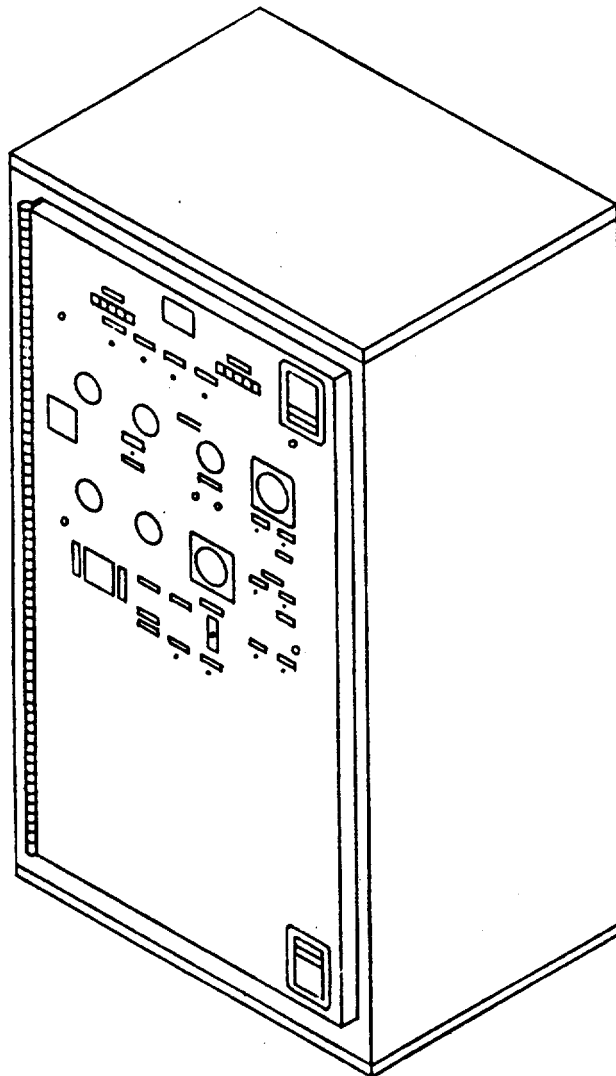
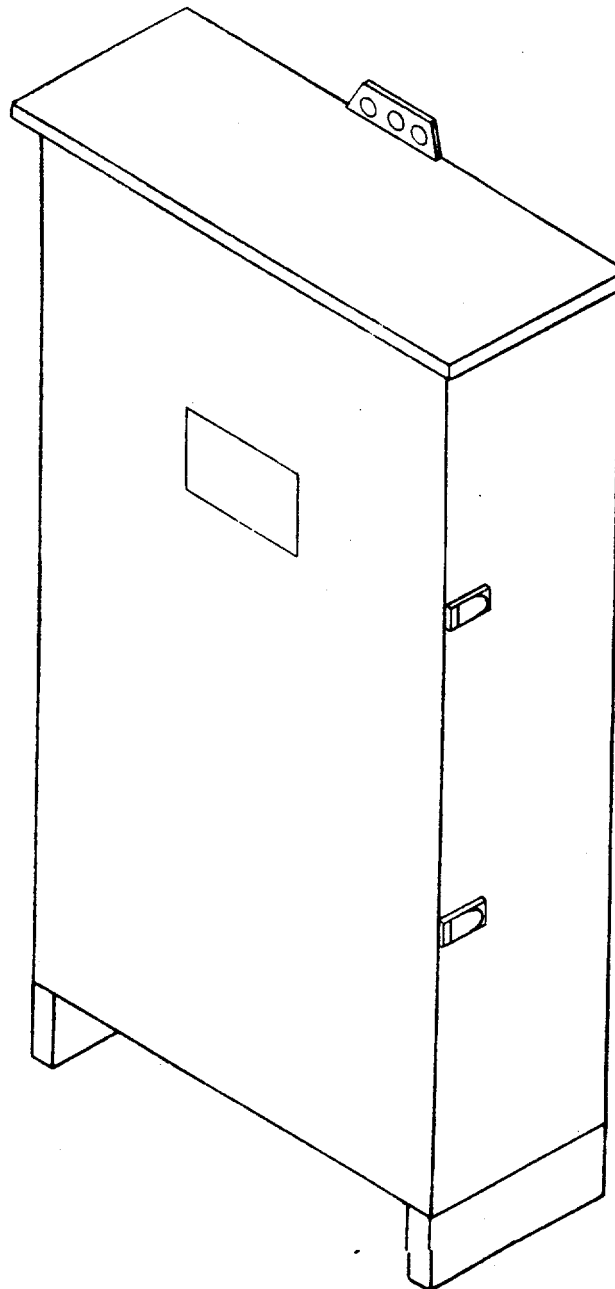
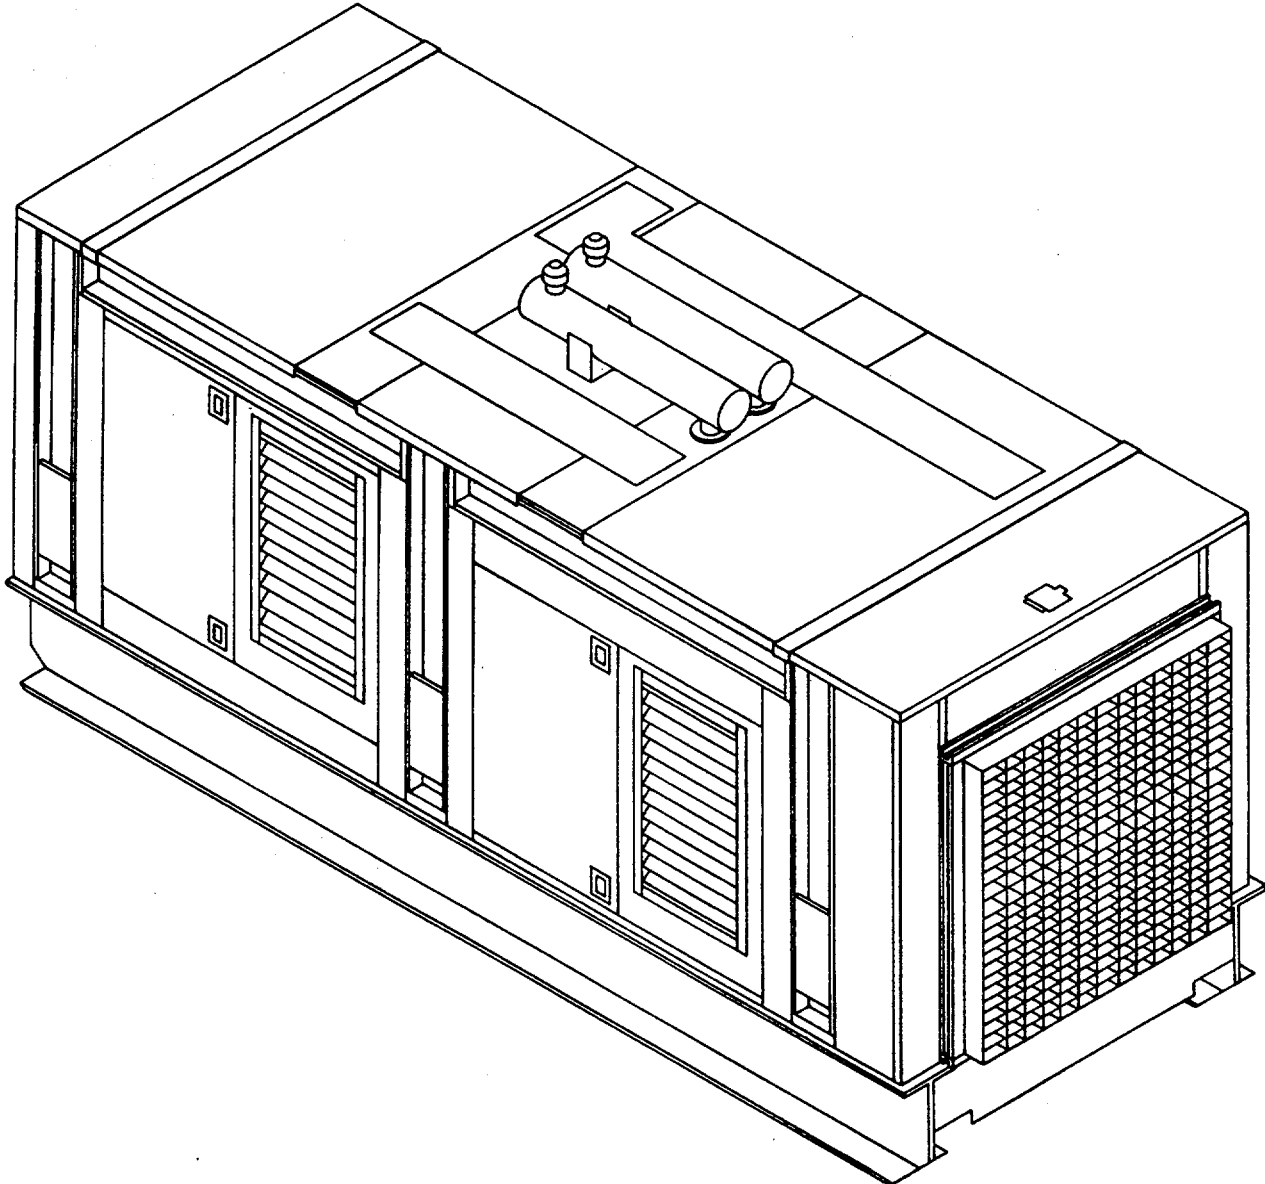

Figure 1-5. Remote Control Module
Figure 1-6. Automatic Control Module
Figure 1-7. Housing Kit, Installed on Generator Set
c. **Accessory Items.** Accessory items consist of a remote control module (figure.1-5); remote control cable assembly; a automatic control module (figure 1-6); and, if required, a housing kit (figure 1-7).